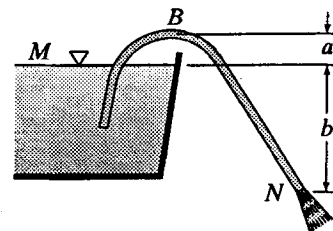

Figure X5.2.2
5.2.3 Refer to Fig. X5.2.2. Assume $a = 1\text{ m}$, $b = 4\text{ m}$, and the flow to be frictionless in the siphon. Find the rate of discharge in m^3/s and the pressure head at B if the pipe has a uniform diameter of 150 mm.